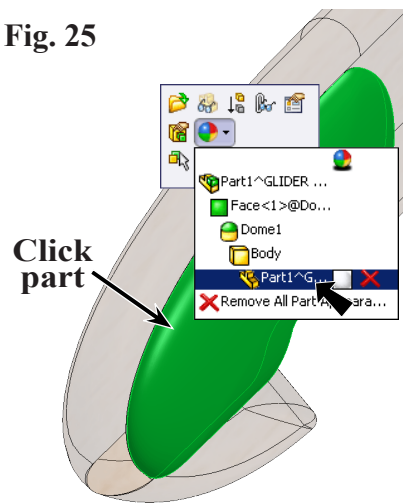

Fig. 24
Step 1. Click the Part, click Appearance Call-out  on the Content toolbar and click Part1.. , Fig. 24.